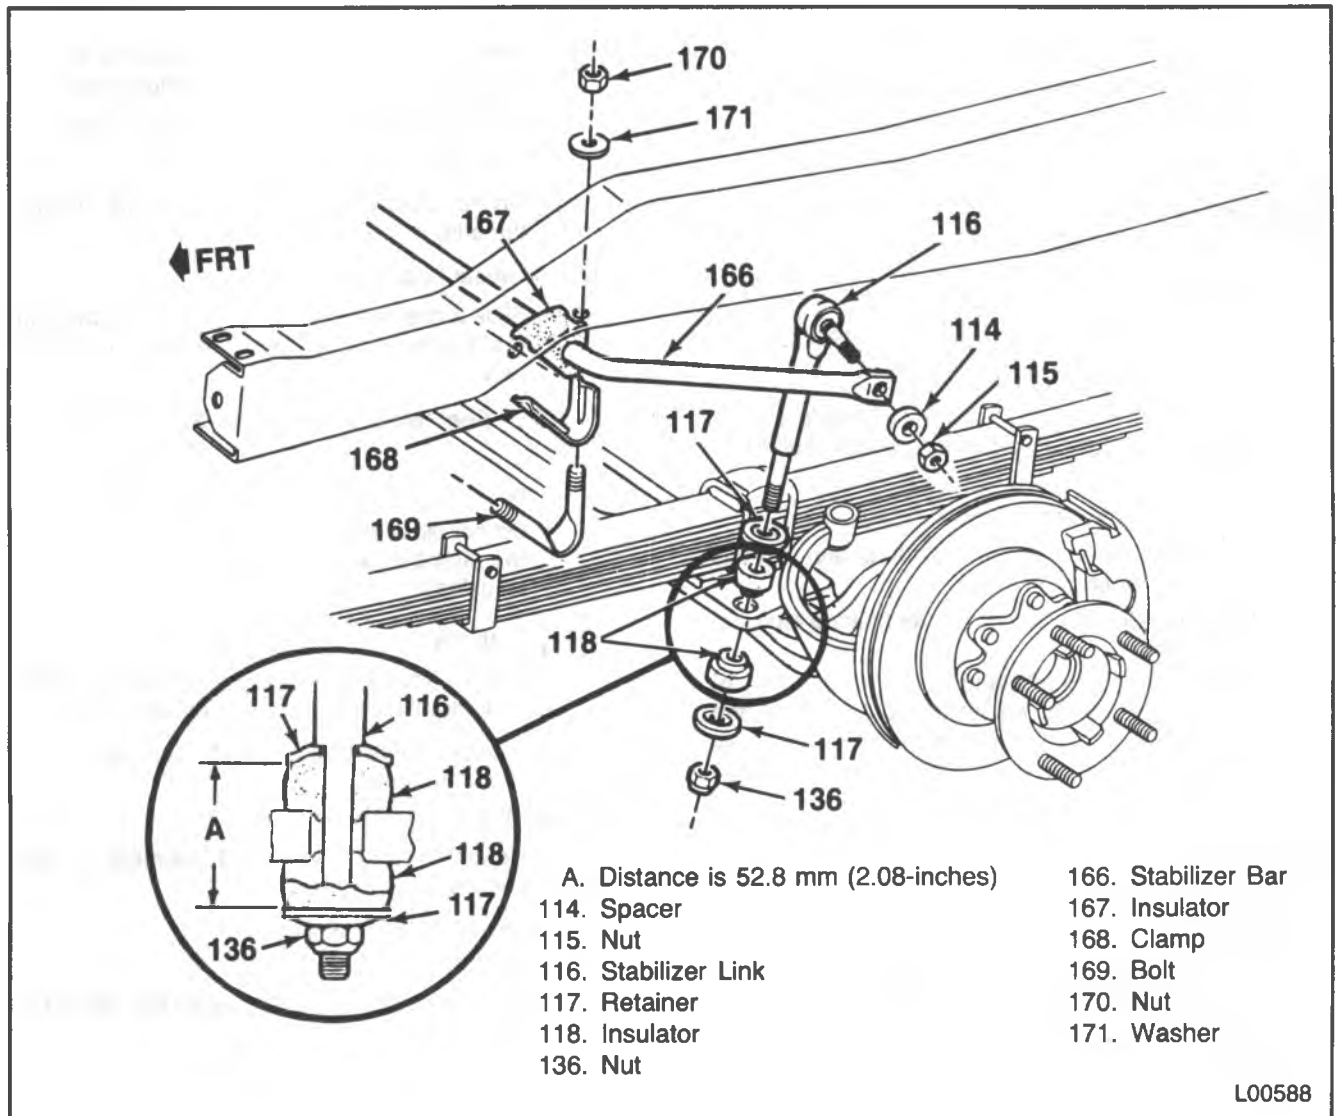

Figure 41 — Stabilizer Bar Attachment Points
- Nut (115) and washer (114).
- Stabilizer bar (166) from the stabilizer link (116).
- Use J 6627-A to separate the stabilizer link from the stabilizer end (figure 41).
- Nuts (170), washers (171), clamp bolts (169) and clamps (168).
- Stabilizer bar (166) from the frame (figure 41).
- Insulator (167) from the stabilizer bar (166).
- Nut (136), retainer (117) insulator (118).
- Stabilizer link (116) from the front axle (157) (figure 41).
- Pull the link from the axle. Another insulator (118) and retainer (117) will come off the link.
- Stabilizer link (116) to the front axle (157) (figure 41).
- Slide a retainer (117) and an insulator (118) on to the link and insert the link into the proper hole in the front axle.
- Insulator (118), retainer (117) and nut (136).
- Nut (136) until the distance between each retainer (117) is 52.8 mm (2.08 inches) (figure 41).
- Stabilizer bar (166) to the frame (figure 41).
- Insulators (167) onto the stabilizer bar (166).
- Clamps (168), clamp bolts (169), washers (171) and nuts (170).